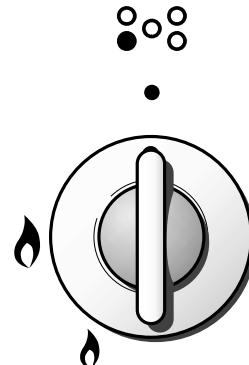

Fig. 4.1
Each hob burner is controlled by a separate gas tap operated by a control knob (fig. 4.1) which has 3 positions marked on the control panel, these are:
- 1) Lightly press and turn the knob anti-clockwise, and position the knob indicator to the symbol 🔥 (high - maximum) printed on the control panel (fig. 4.1).